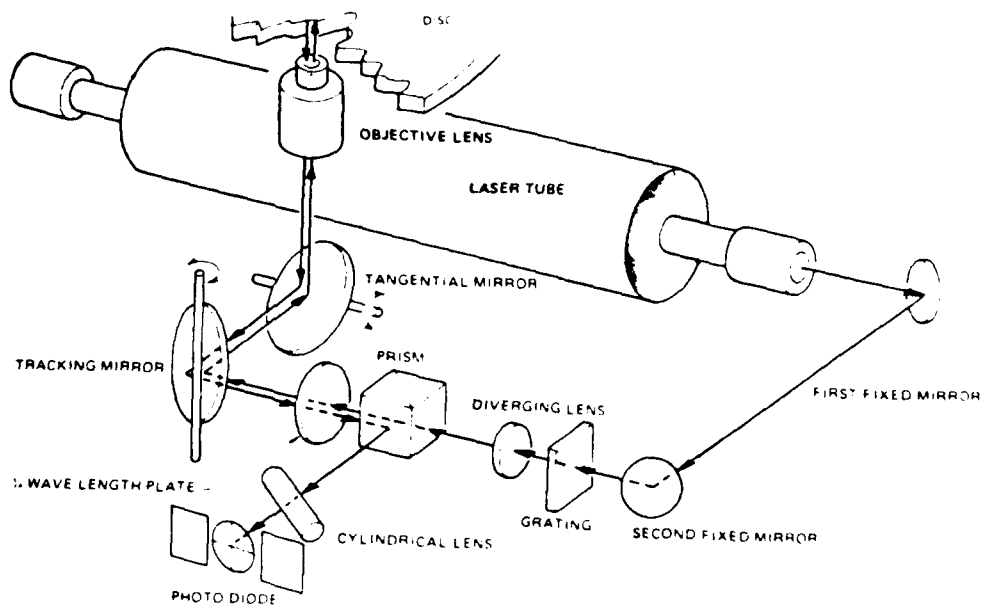

Fig. 1. Diagram showing the path of the laser beam as it is reflected on to the disc and back again to photo diode
**ELECTRONIC ANALYSIS.** Our laboratory analysis yielded two sets of waveforms for the competing CED and laser disc systems. The CED tests (Fig 1) were made on a Zenith player using a preprogrammed test disc, since special signals to accommodate all player electronics are not yet available. For the laser disc system, however, both vertical interval test (VITS) and vertical interval (color) reference (VIRS) signals are available directly from regular 30-minute discs (Fig 2)
When the player operates, red light emerges from the laser as a linear cone to the first and second fixed mirrors (Fig. 1). These change its directions and adjust the optical axis to the desired position on the grating. There, the beam's center is split into several parts, of which two are used to read tracking signals while the center, or zero-order, beam reads the FM and focus signals. The other residuals around the circumference are at lower energy levels and have no effect.